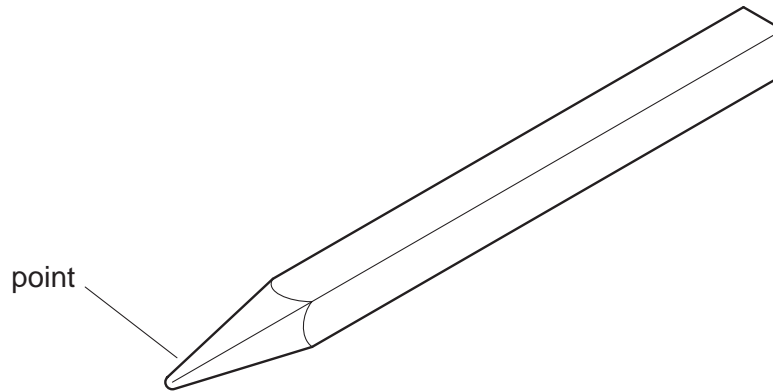

Fig. 5
- (ii) how you would draw down the end of a piece of wrought iron 10 mm square into a point shown in Fig. 5. [6]